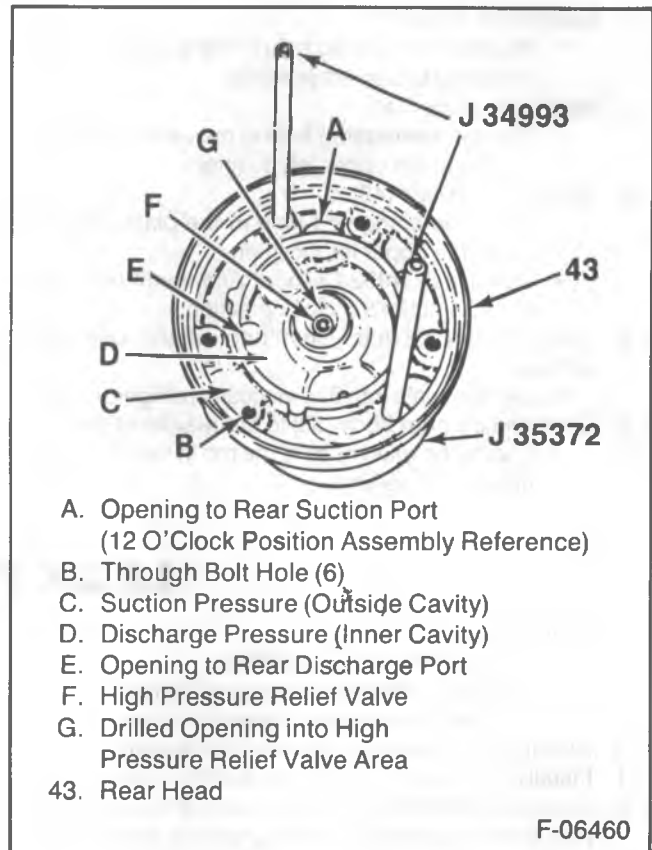

Figure 26—Positioning the J 34993 Guide Pins
- Place the rear head on J 35372 with the control valve (5) at the 6 o'clock position.
1. Cylinder Alignment Rods J 34993 in the mounting holes at the 5 and 11 o'clock positions (figure 26).